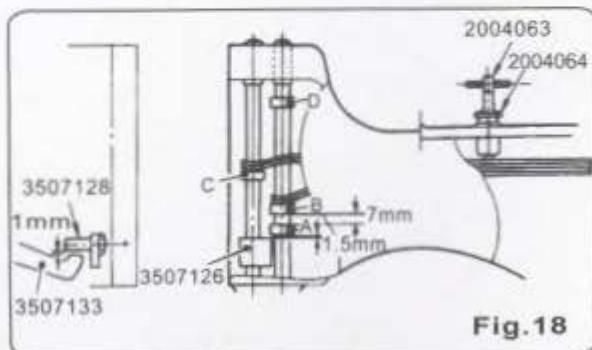

Fig. 18
- Adjust and set presser bar holder (3507126) so that the clearance between presser lifter lever (3507133) and presser lifter pin (3507128) is 1mm, as shown in (Fig. 18)